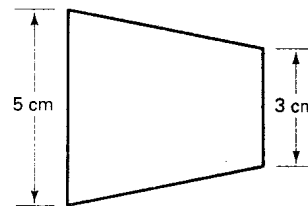

Fig. 3-23
3.43 The trapezoidal pattern shown in Fig. 3-23 results when examining an AM wave. Calculate the modulation factor and percent modulation.